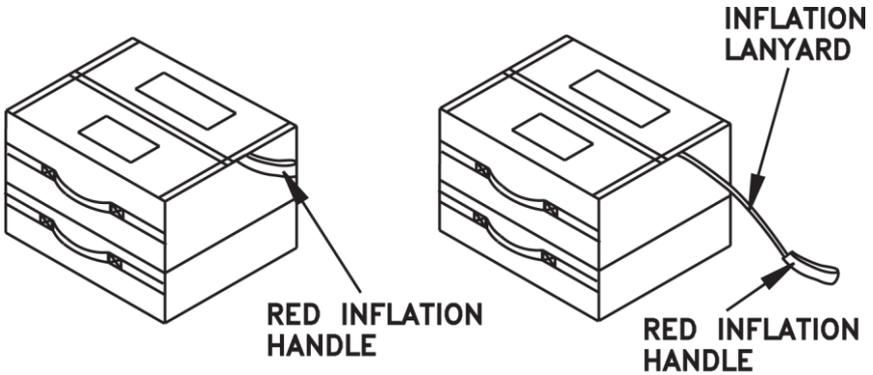

FIGURE 2
4. Grab the red inflation handle. (See Figure 2).